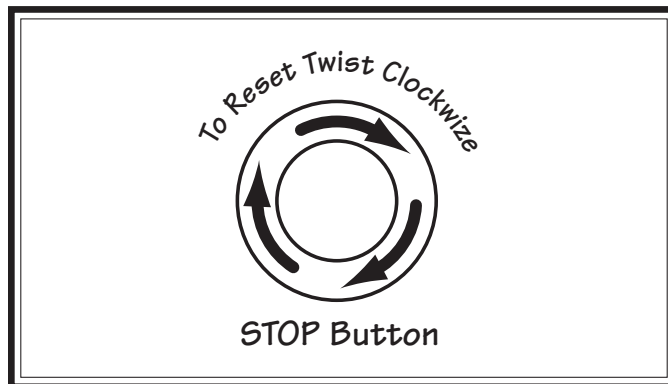

Figure 41. Resetting Emergency Stop button.
7. Twist **Emergency Stop** button clockwise until it pops out (see **Figure 41**). This resets switch and machine can now start.